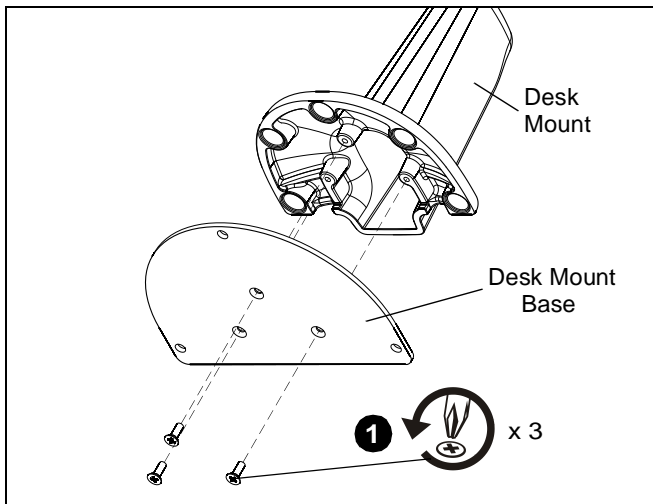

Figure 1
1. Remove three screws from desk mount base. (See Figure 1)